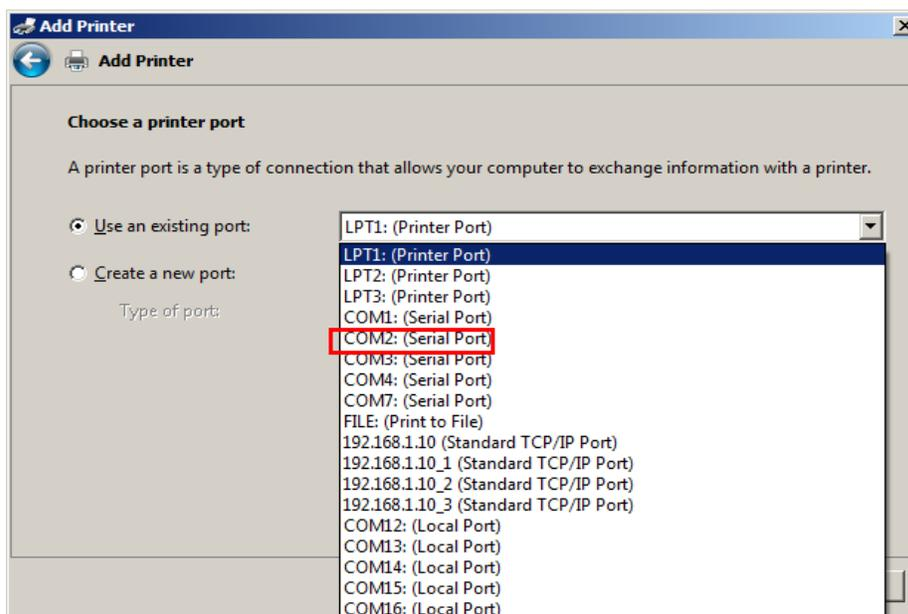

Figure 10-21 - Add a serial printer – COM Port Selection
- 6) Click **Next** and select the port the printer is attached to on the back of the AlcoTest®. For the serial port on the back of the AlcoTest® select **COM2** for an older serial printer. (Figure 10-21) NOTE: This does not apply to local USB connected printers.